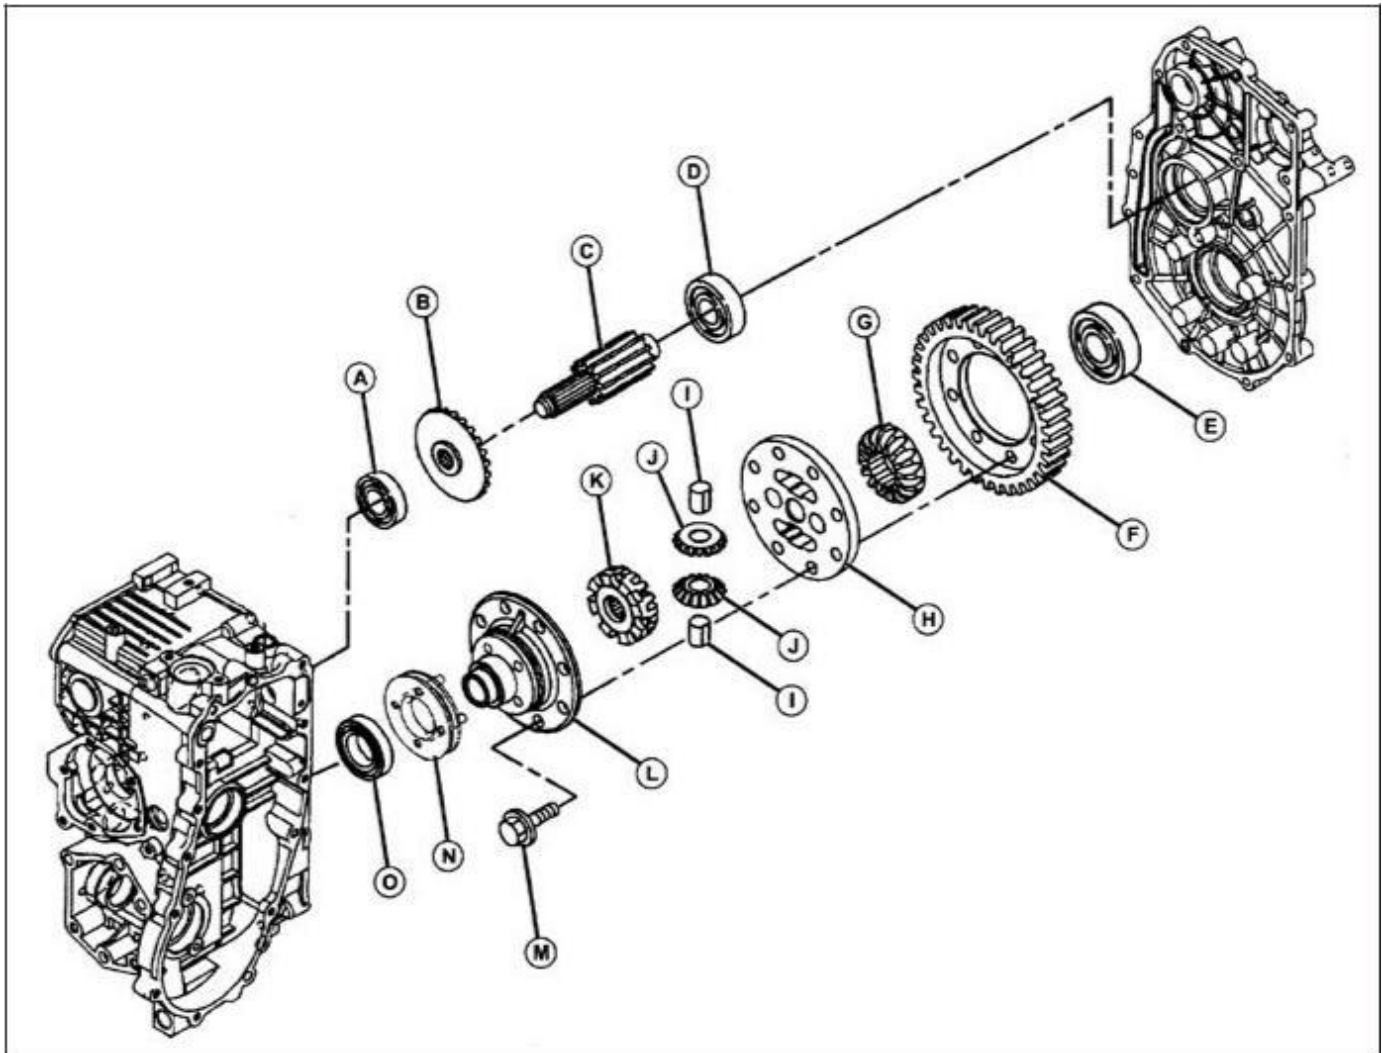

Fig. 39, Differential (2WD) Disassembly
6. Check differential holder (L) and carrier (H) for wear, cracks or damage. (Fig. 39)
7. Inspect final gear (F) for worn or damaged teeth.
(Fig. 39)
10. Install final gear on differential holder and carrier with the deeper offset of gear center away from the holder. Tighten eight differential cap screws (M) to 88 N•m (65 lbft).
11. Install differential lock collar (N) and left and right bearings (O). Push bearing tight against shoulder of differential holder. (Fig. 39)